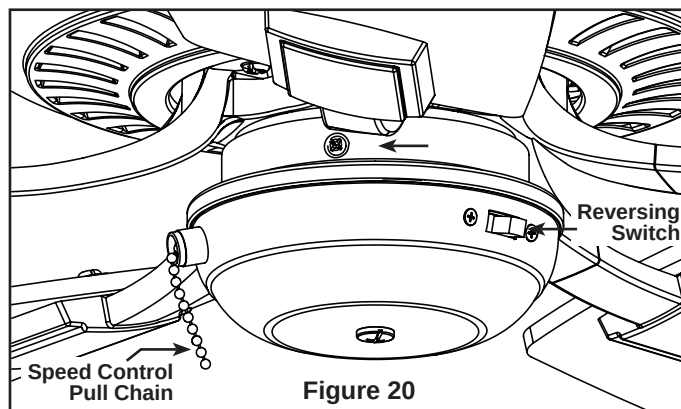

Figure 20
- ☐ 3. If airflow is desired in the opposite direction, turn the fan off and wait for the blades to stop turning. Then slide the reverse switch to the opposite position and turn fan on again. Your fan model is equipped with a 4-position, 3-speed, pull chain switch. (Figure 20)